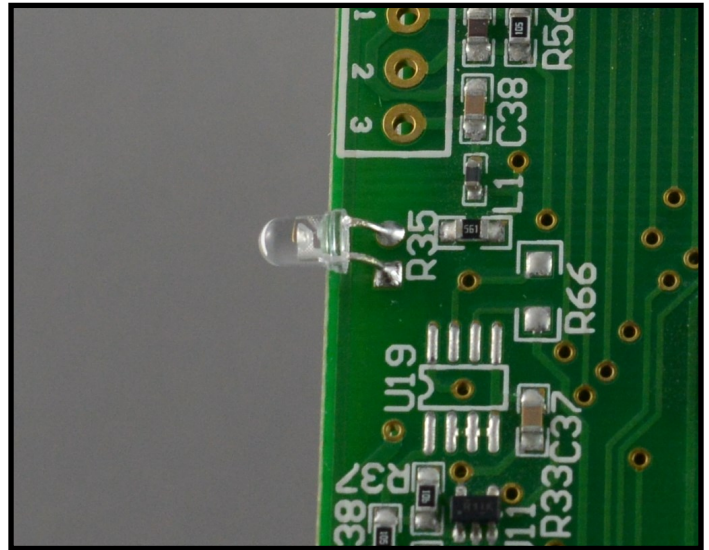

Figure 7a. Spindle LED
- If done correctly when looking straight on you won't see the curved edge of the LED. See Figure 7a as a guideline.